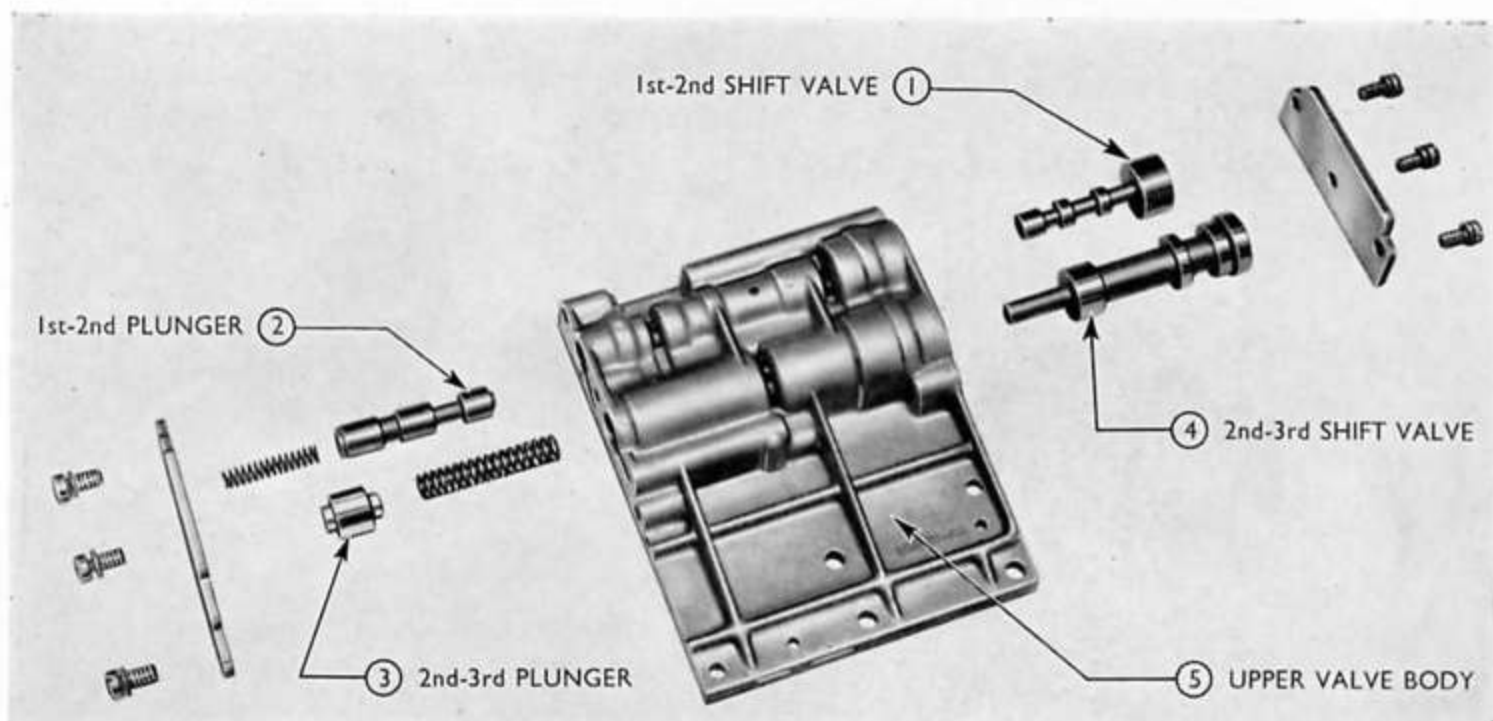

Fig. 57
5. The upper valve body has two end plates, each secured by three cheese-headed screws. Remove these retainer plates followed by the second to third shift valve, spring, plunger and the first to second shift valve from the rear of the body. From the front of the body withdraw the first to second shift valve spring and plunger (see Fig. 57).